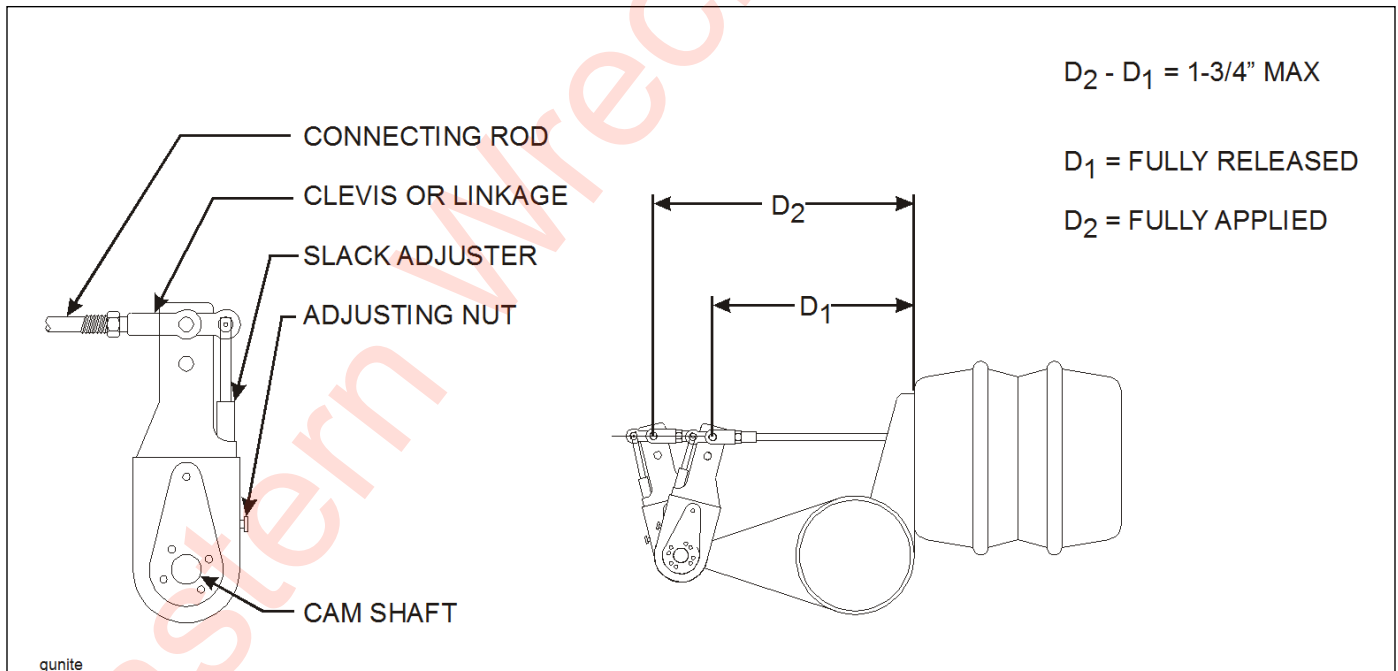

Figure 4-10: Checking Brake Adjustment
4. Remount the brake chamber on the axle brackets and reconnect the air service hoses and the slack adjuster connecting rod (**See Figure 4-10.**)
2. Measure the distance (D1) from the face of the brake air chamber to the center of the slack adjuster linkage pin **(See Figure 4-10.)**
7. Place a 9/16" box end or socket wrench on the slack adjuster adjusting nut **(See Figure 4-10)**, and push in on the locking sleeve.